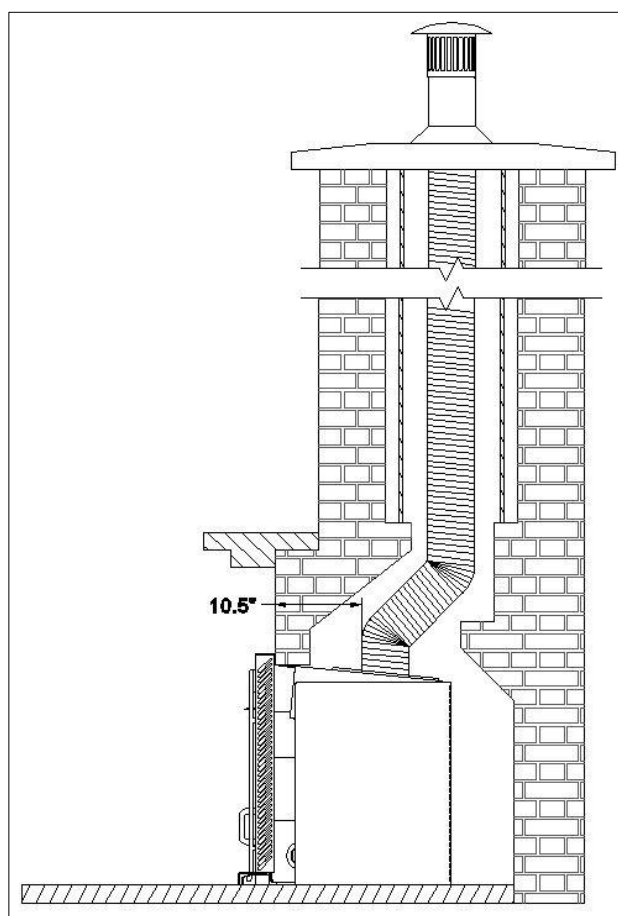

Figure 3-7: FUSION Installation
- Align the liner adaptor with the flue of the insert (Figure 3-7).